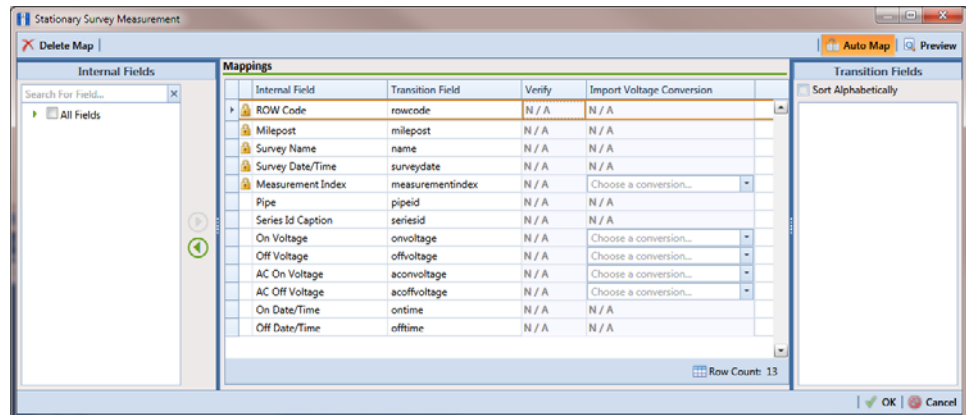

Figure 10-21. Stationary Survey Measurement
- a** Click  **Edit** in the *Maps* group box to open the *Stationary Survey Measurement* dialog box (Figure 10-21).